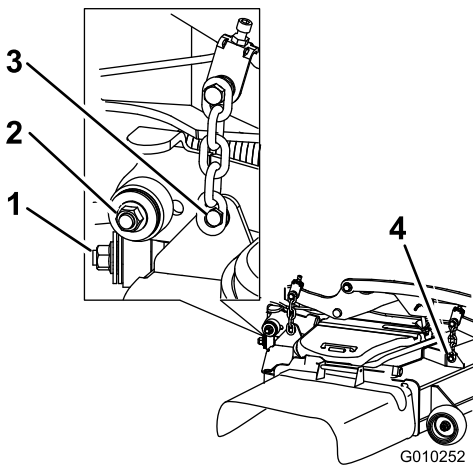

**Figure 104**
5. Lift up the floor pan and insert a ratchet into the square hole in the deck idler (Figure 104).
6. Rotate the deck idler clockwise and remove the mower belt (Figure 104).